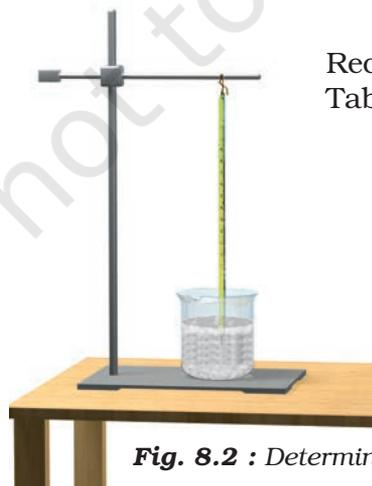

Fig. 8.2 : Determination of melting point of ice
2. Insert the bulb of the thermometer into the ice and let it stand in a vertical position (Fig. 8.2).